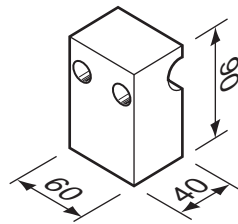
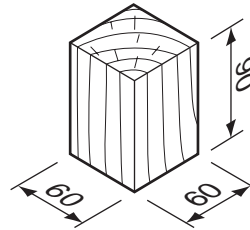

Fig. 5a
Fig. 5b
- (c) The cab shown in Fig. 5a will be made from the block of beech shown in Fig. 5b.